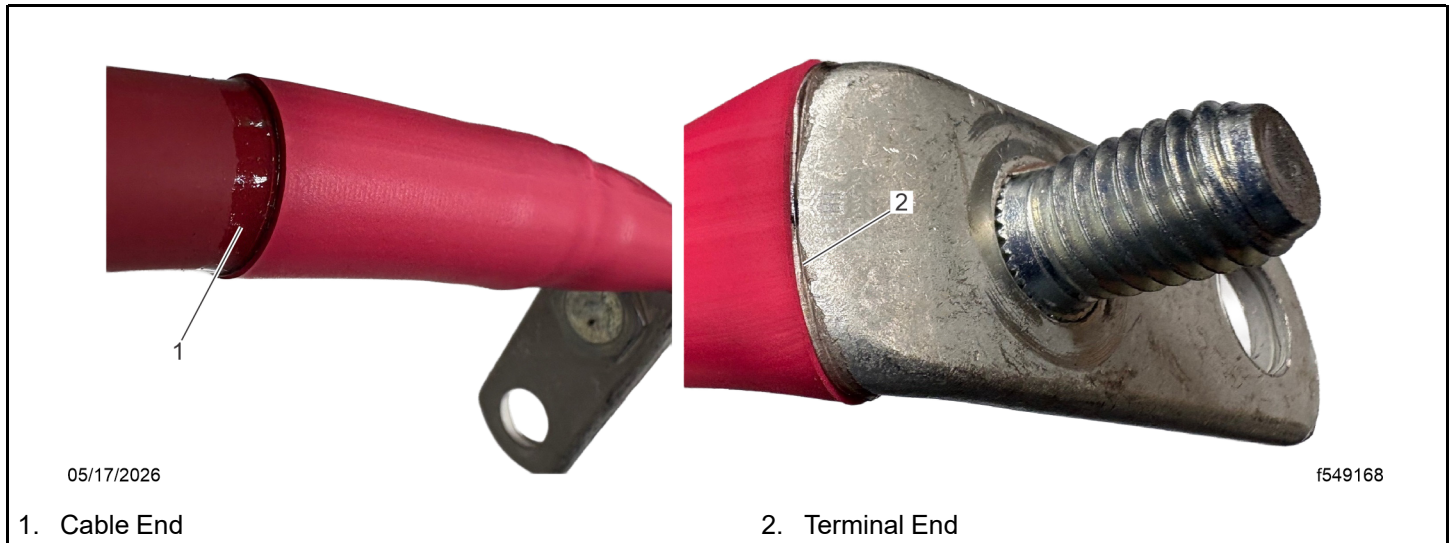

Fig 134, Continuous Adhesive Seal at Cable and Terminal Ends
- c. Confirm a continuous ring of adhesive can be seen around the circumference of the sleeve at both ends. See Fig. Fig. 134.